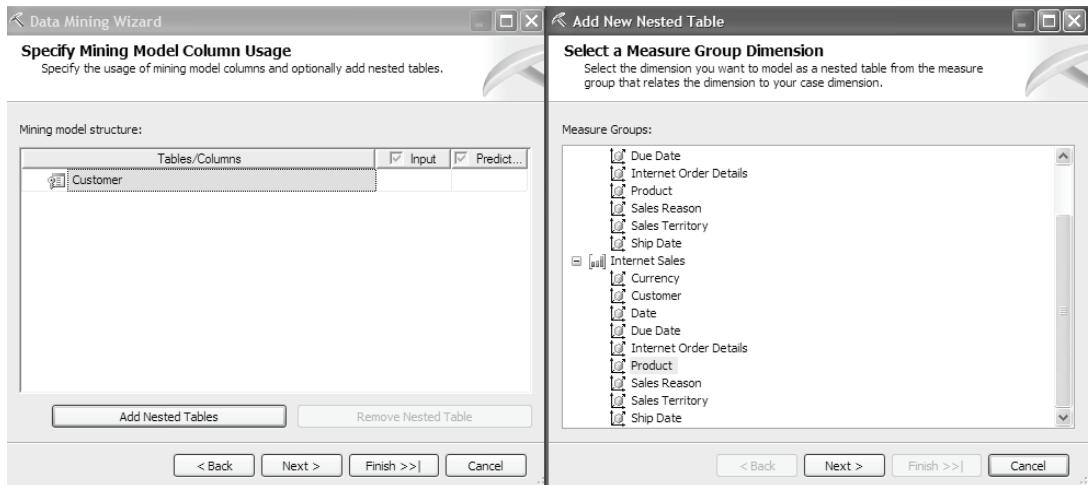

Figure 8.12 You can choose any related dimension to form a nested table.
- In the Specify Mining Model Column Usage step, click on the Add Nested Table button to start the nested dimension wizard flow. You can choose any dimension that shares the same measure groups with the case dimension as a nested dimension. Select the *Product* dimension from the Internet Sales measure group (Figure 8.12).